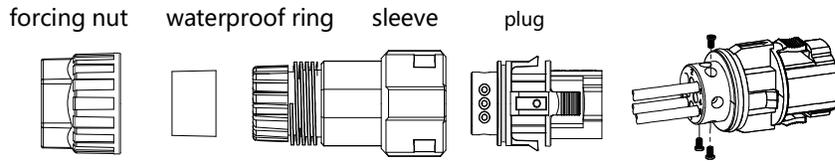

FIG 8 Composition and wiring of plugs
- 2) Prepare both ends of the cable according to FIG 8, remove 23mm of the cable sheath and 7mm of the core wire insulation skin.
- 4) Thread the other end of the cable through the forcing nut, waterproof ring, and socket of the plug in sequence, as shown in FIG 8.